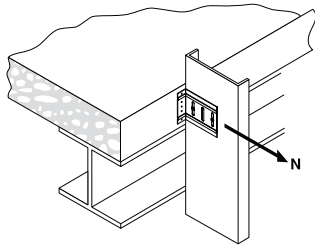

Figure 6:
- Allowable load based on a safety factor of 5.0 in direction shown in Figure 6 for attachment of deflection slip clip to 4000 psi Normal Weight Concrete Slab.